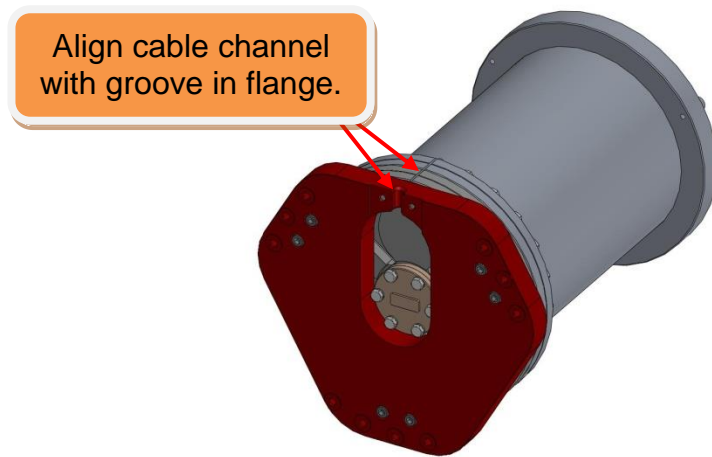

Figure 4.49. Adapter Plate bolted onto GS-13 Baseplate. Tapped holes are blind, so vented screws must be used.
- Mount **GS-13 Adapter Plate** to **Pod Baseplate** (20007813). Cable channel in **Adapter Plate** must line up with alignment etching on **Baseplate** (as shown in Figure 4.49). Add *vented* hardware and torque to final spec.